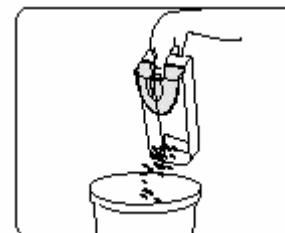

Fig. 7
2. Empty dust container contents. (Fig. 7) If desired- you may rinse with water to clean the dust container - but **dry thoroughly** before replacing on the sweeper.